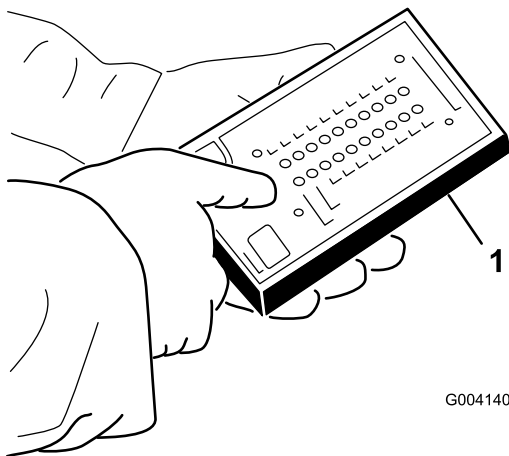

Figure 19
4. Connect the Diagnostic ACE display tool connector to the diagnostic connector (Figure 19).